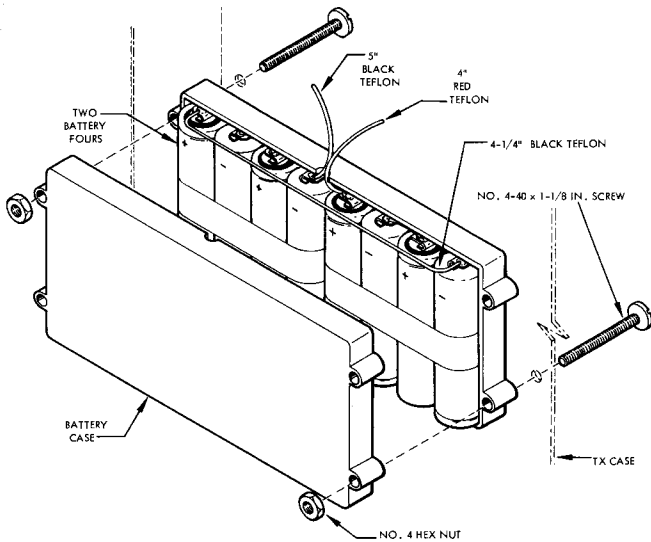

Figure 20. Assembling Transmitter Battery Pack
- 135. Position two battery four-packs, with polarities as shown in figure 20, in front half of battery case.